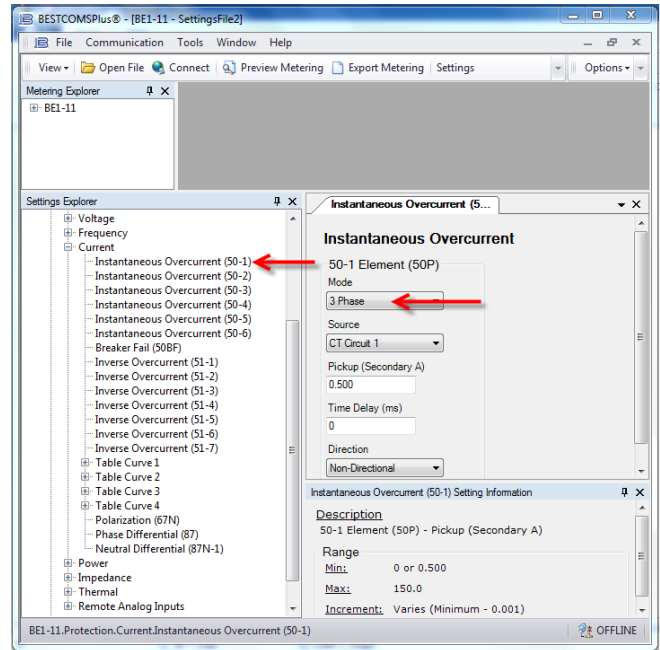

Figure 5 - Setting Instantaneous Overcurrent Elements for Self-Balancing Differential Protection
In BESTCOMSPiUS software, the method to configure the BEI-11g relay for self-balancing protection is identical to the configuration for any three-phase overcurrent element (50). In this example, use Instantaneous Overcurrent 50-1 (see Figure 5). In the software window, Instantaneous Overcurrent 50-1 has Mode set to 3 Phase. The Pickup setting is the user-defined pickup value in secondary amps. If needed, set Time Delay from 0 to 60,000 milliseconds.